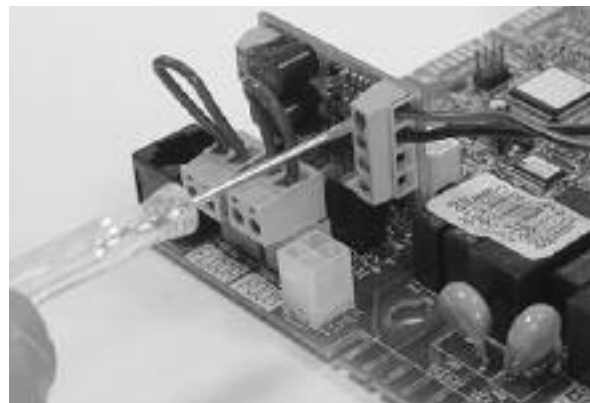

Fig. 106
2. Install the interface PCB supplied in the external sensor kit on the main PCB (see *Fig. 106*)
3. Connect the wires between the external sensor and the interface (see *Fig. 106*).